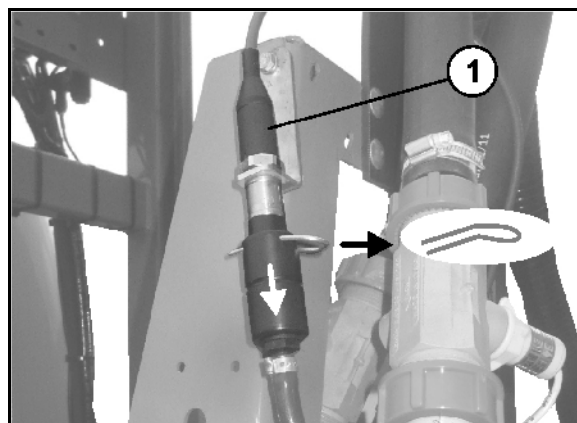

Fig. 145
21. **Super-S boom:** drain the pressure sensor (Fig. 145/1) of the boom fitting with the boom lowered by removing the hose from the pressure sensor..